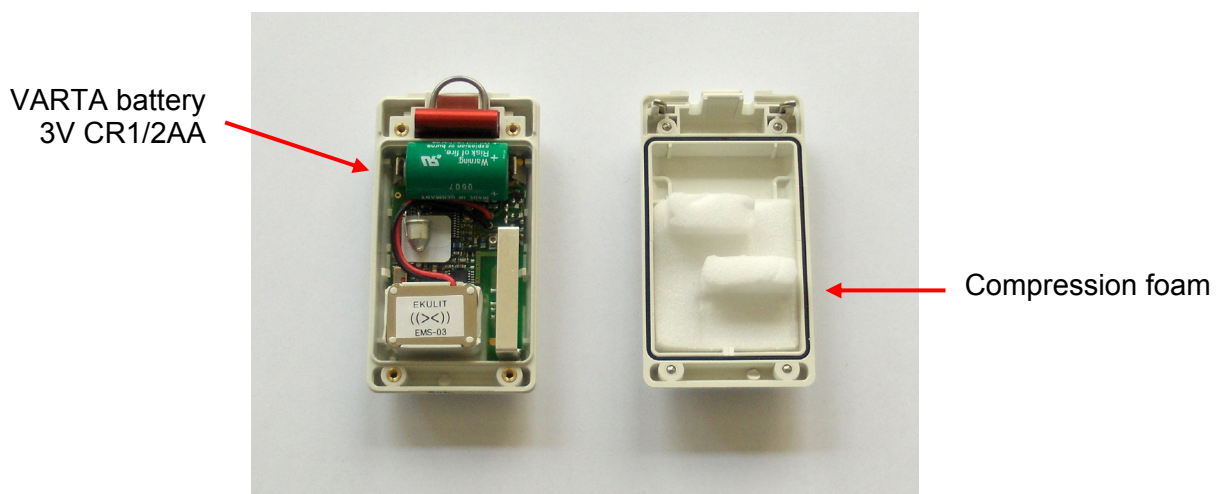

Fig. 4. Opening the ManDown Sensor
- Carefully place the compression foam as shown in *Fig. 4. Opening the MIYMD ManDown Sensor.*